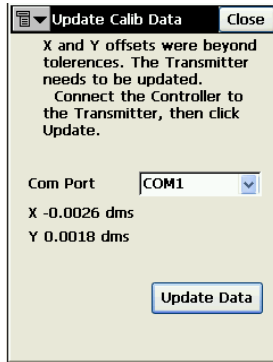

Figure A-20. Field Calibration Results
If the offsets were outside the tolerance range, TopSURV will indicate that the transmitter needs to be updated (Figure A-20).
12. On the *Update Calibration Data* screen, select the *Com Port* that connects the controller and transmitter and tap **Update Data** (Figure A-20).